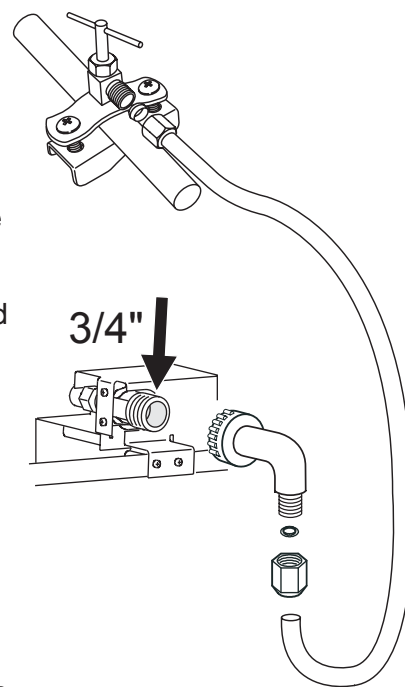

Figure 10
2. The 1/4 inch copper tubing between the shut-off valve and solenoid valve has a 3/4 inch male connector (Figure 10). Make sure there is approximately 27 inches (68.6 cm) of excess tubing behind the unit for easy connection.